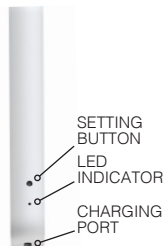

Figure 2: Wand Charging Port
1. First, connect the charging cable to the power adapter, then plug the power adapter into a wall outlet. Next, insert the charging cable connector into the charging port located at the base of the wand **[Figures 2 and 3]**. The green LED light on the back of the wand will flash three times to indicate the charging cable is connected and will continue to flash while charging **[Figure 2]**. Charging typically takes 5 - 6 hours. When the battery is fully charged, the LED light will glow solid green.